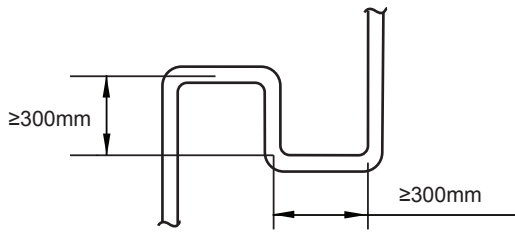

Figure 4.3
- When the outdoor unit is above the indoor unit, and the level difference exceeds 20 m, it is recommended that an oil return bend be set up at every 10 m interval on the gas pipe of the main piping. The recommended specifications of the oil return bend are as shown in figure 4.3.
- Requirement 3:** The largest level difference between indoor unit and outdoor unit should not exceed 90m (if the outdoor unit is above) or 110m (if the outdoor unit is below). Additionally: (i) If the outdoor unit is above and the level difference is greater than 20m, it is recommended that an oil return bend with dimensions as specified in Figure 4.3 is set every 10m in the gas pipe of the main pipe; and (ii) if the outdoor unit is below and the level difference is more than 40m, the liquid pipe of the main pipe ( $L_1$ ) should be increased one size.